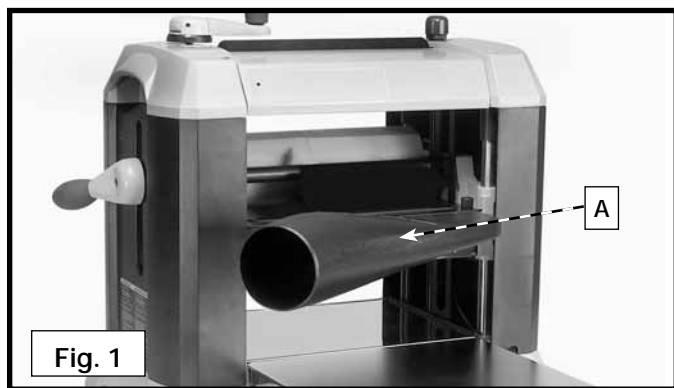

Fig. 1
To attach an optional dust collection attachment (A) Fig. 1 to mount a dust collection system to the planer.